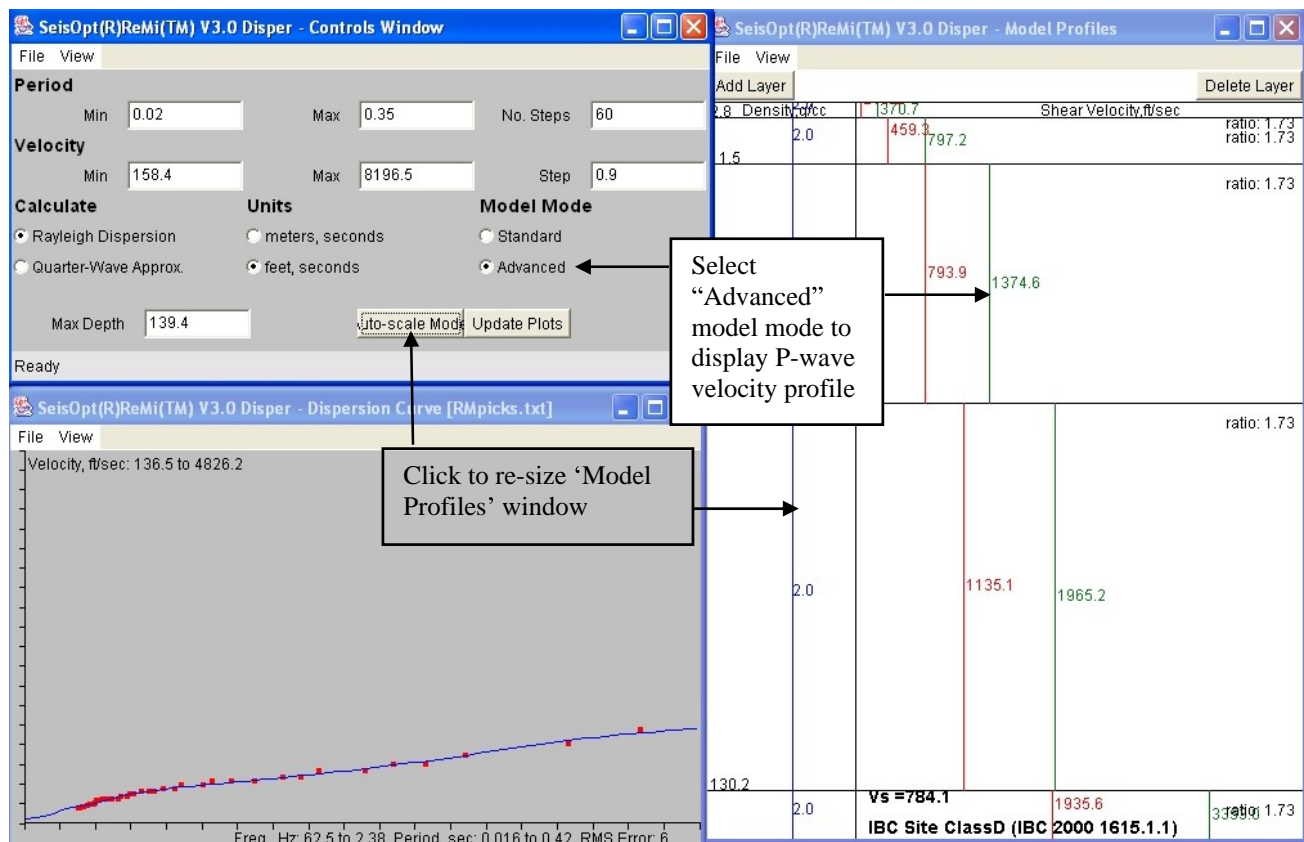

Figure 56: Select the “Advanced” model mode in the ‘Controls’ window to model the shear-wave velocity profile with P-wave velocity constraints.
- To do so, select the “Advanced” model mode in the ‘Controls Window’ (Figure 56). The P-wave velocities for will be displayed as green lines.